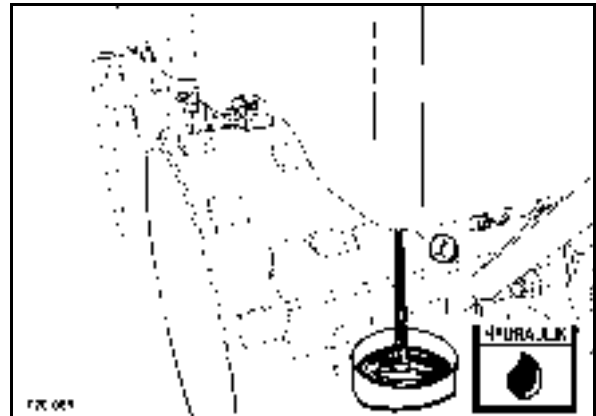

Fig. 126
- Unscrew the plug (Fig. 126) and drain off all hydraulic oil.